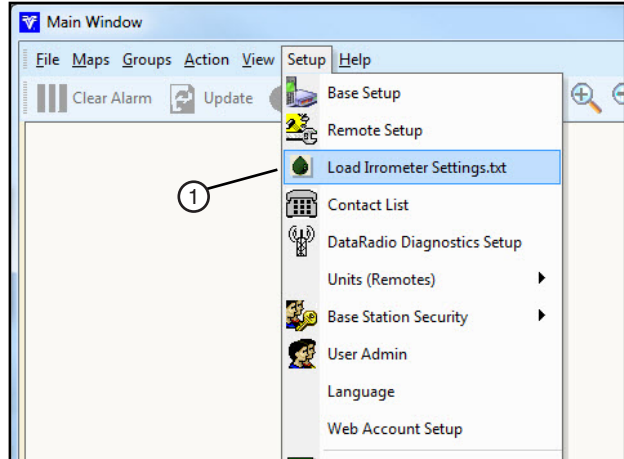

Figure 32-1 1. Load Irrrometer Setting.txt
- f. Click on Setup/Load Irrrometer Settings.txt. See figure 32-1.